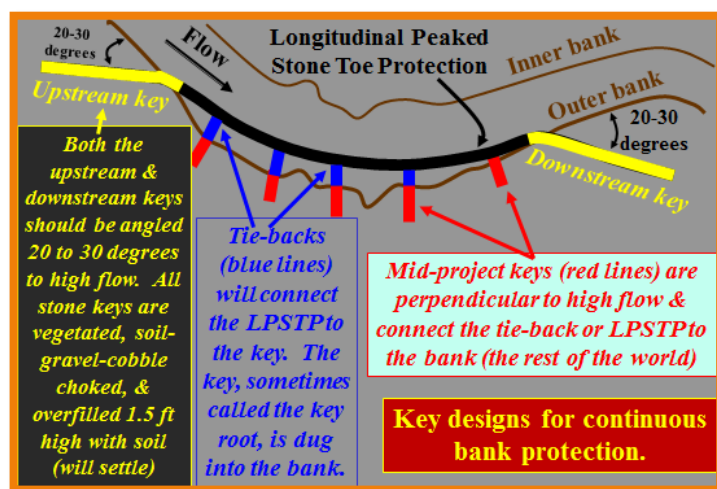

Figure 1: Key installation connected to Longitudinal Peaked Stone Toe Protection (LPSTP). Derrick.
- Keys at the upstream and downstream ends of LPSTP should not be at a 90 degree angle to the LPSTP structure, but at 20 to 30 degrees to high flow (or the bank), then curved away from the stream (greater angle) further from the stream (see Figure 1).